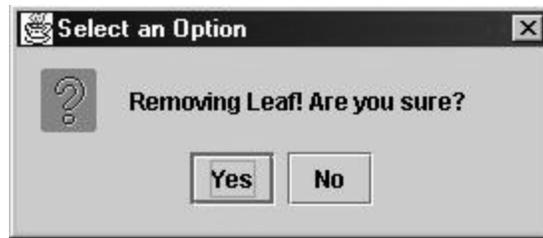

Figure 7-7: Confirm Delete Leaf Dialog
4. Click **REMOVE**. The Select an Option dialog displays. See Figure 7-7.